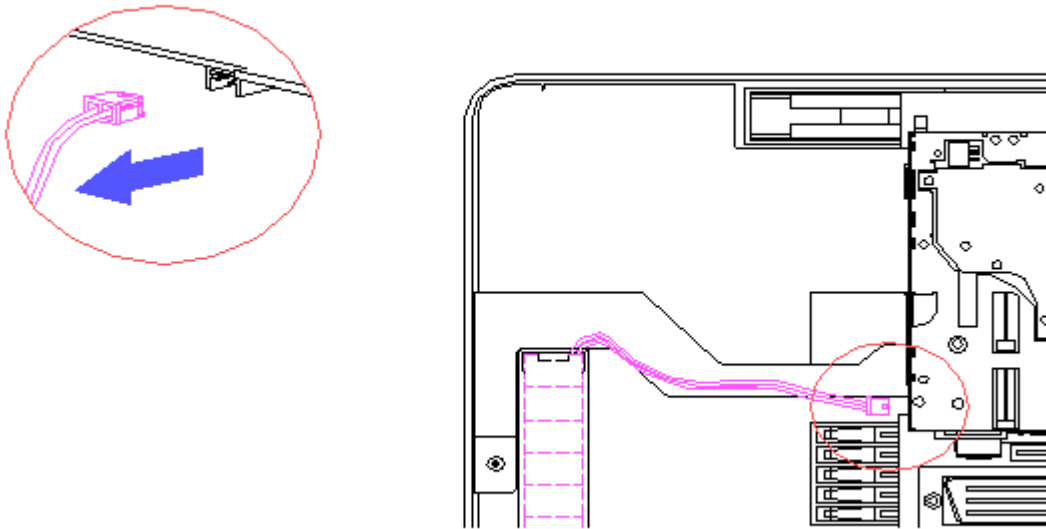

Figure 3-74. Disconnecting the Auxiliary Battery
4. Disconnect the auxiliary battery from the system board (Figure 3-74).